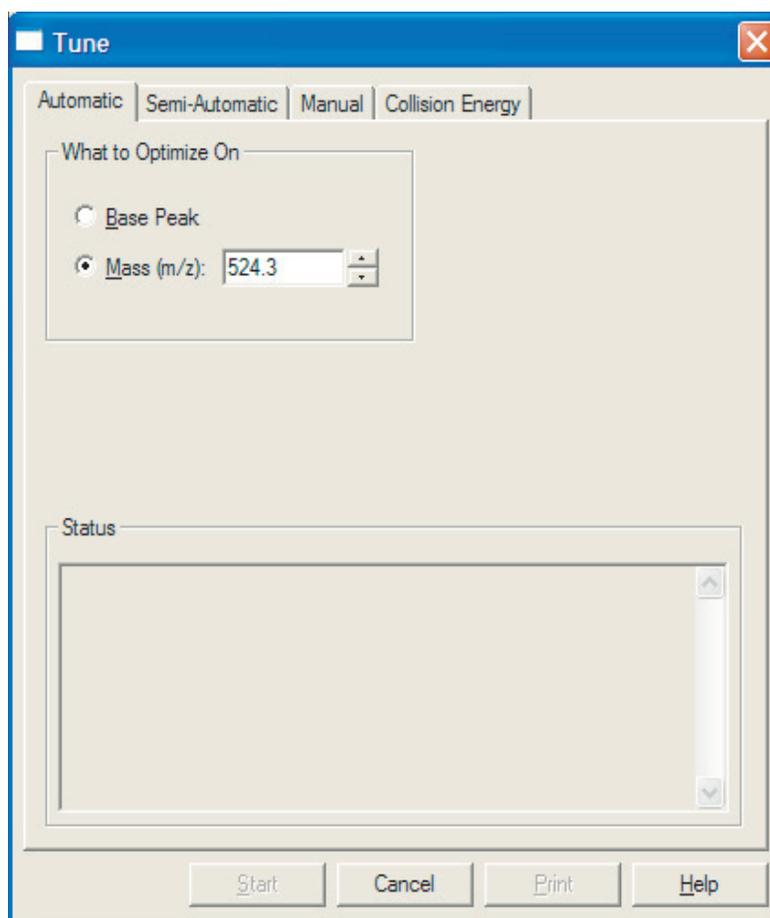

Figure 71. Tune window showing the MS detector Tune on m/z 524.3u
2. If necessary, click on the Automatic tab to display the Automatic tuning page. See Figure 71.